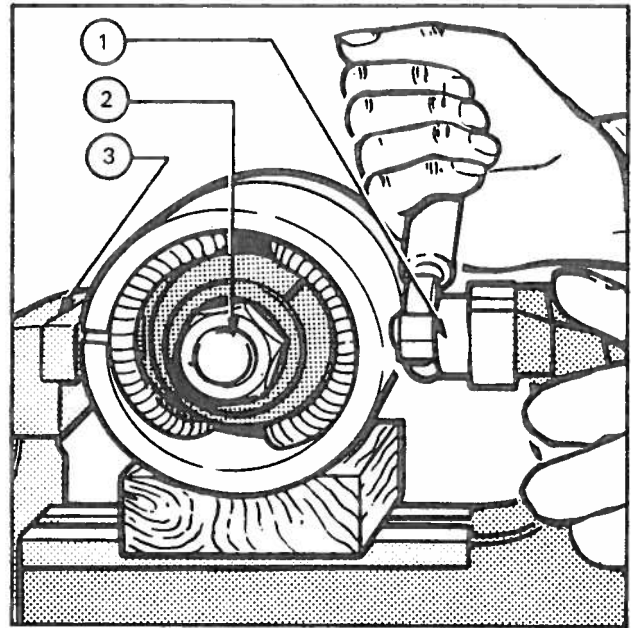

Fig. 7 Removing and replacing the pole shoes
5. Mount the yoke and pole piece screwdriver in a vice, as shown in Fig. 7, the pole piece screws can then be slackened off and finally removed.
10. Mount the yoke and pole piece screwdriver in a vice, as shown in Fig. 7, and tighten the screws fully.